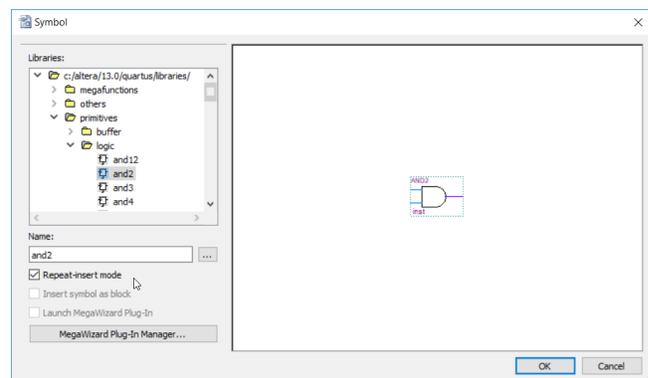
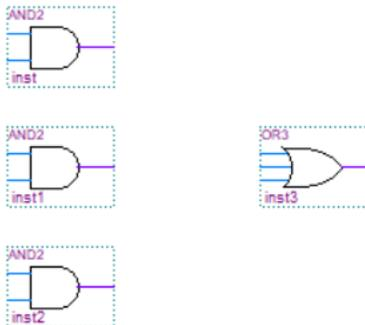

Figure 11. Add new symbol.
Figure 13. Add or3 gate.
3. Click Symbol Tool. A pop-up dialog box will appear as shown in Figure 11.
7. Another way to add symbols is by clicking anywhere on the schematic editor working space. The Symbol dialog box similar to Figure 11 will appear. At this time, insert an **or3** gate as shown in Figure 13.